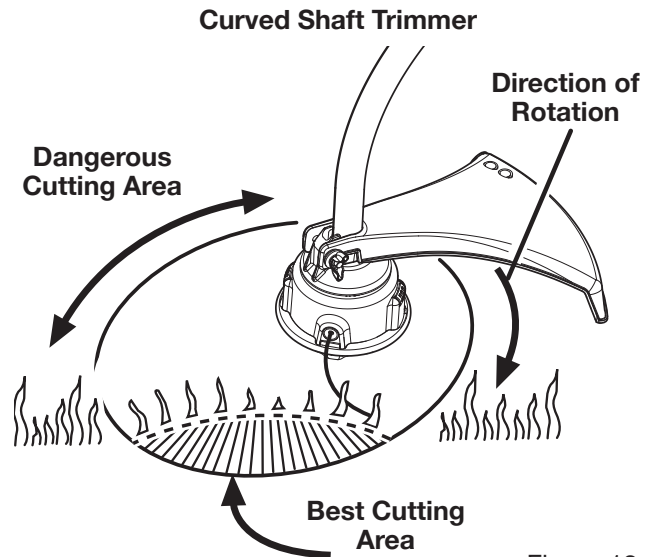

Figure 12
See Figures 12 - 13.
3. The curved shaft trimmer cuts when passing the unit from right to left. the straight shaft trimmer cuts when passing the unit from left to right. This will avoid throwing debris at the operator. Avoid cutting in the dangerous area shown in figures 12 and 13.